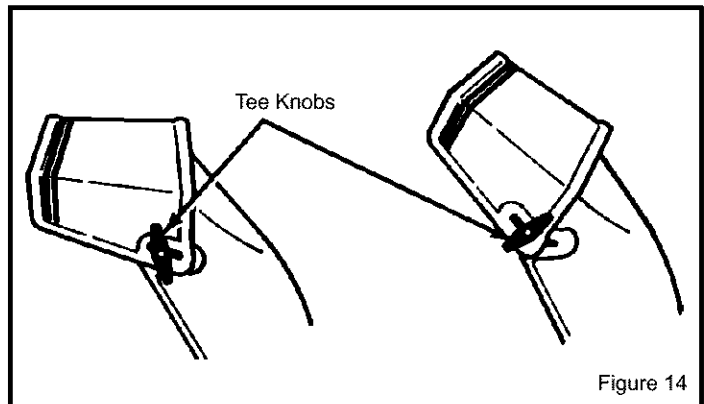

Figure 14
2. Adjust snow chute deflector. Loosen wing nut on the side of the snow chute and raise chute deflector for more distance. Tighten wing nut. (see Figure 14).